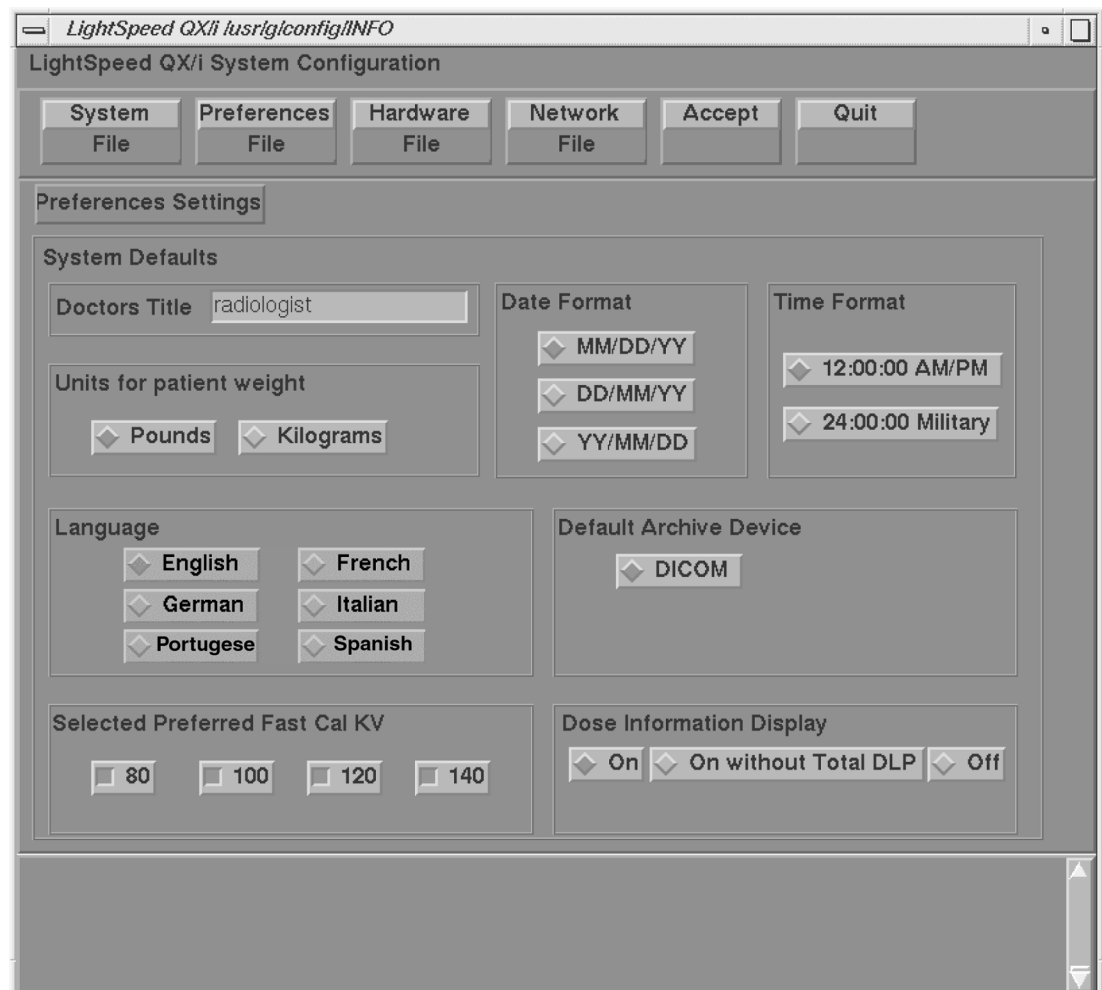

Figure 5-4 Preferences Setup Screen
8.) Select the PREFERENCES button to display the Preference Settings Screen as shown in Figure 5-4.